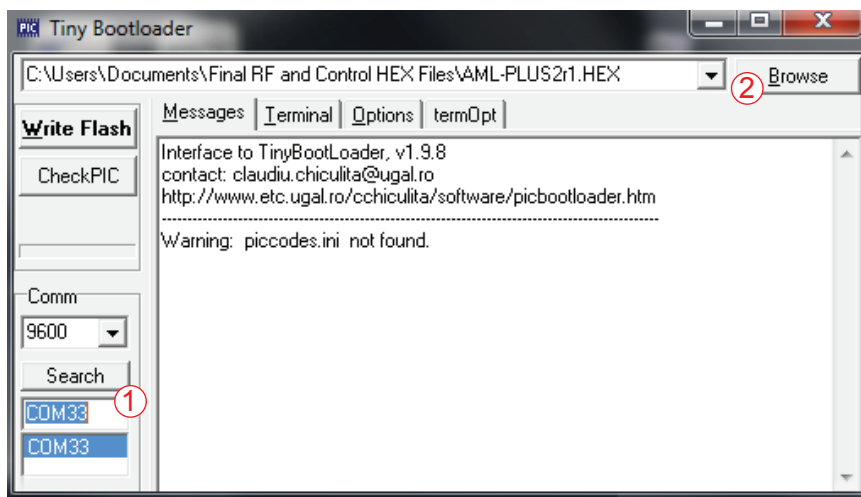
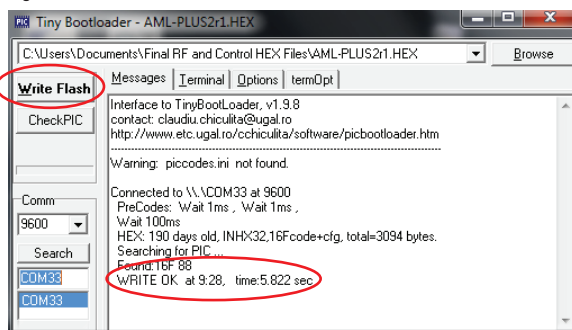

Figure 16-1
Figure 17-4
3. The tiny bootloader screen will display, (Figure 16-1).
4. The computer will automatically recognize the Comm Port the AML+ is connected. The port # ① will appear in the left panel of the screen.
5. Select your file source by clicking on “Browse” ② button, select latest firmware file and click “OK”
8. Upon completion, the screen will display a string of values and commands (Figure 17-4).